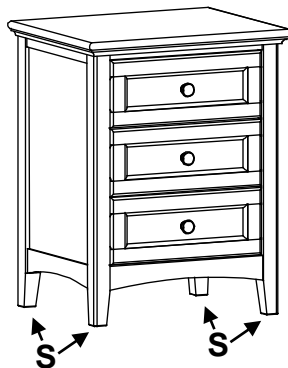

Fig. 1
- Place the unit at its final destination. Rotate the Small Adjustable Glides (S) on the bottoms of the legs until the unit is level. See Figure 1.